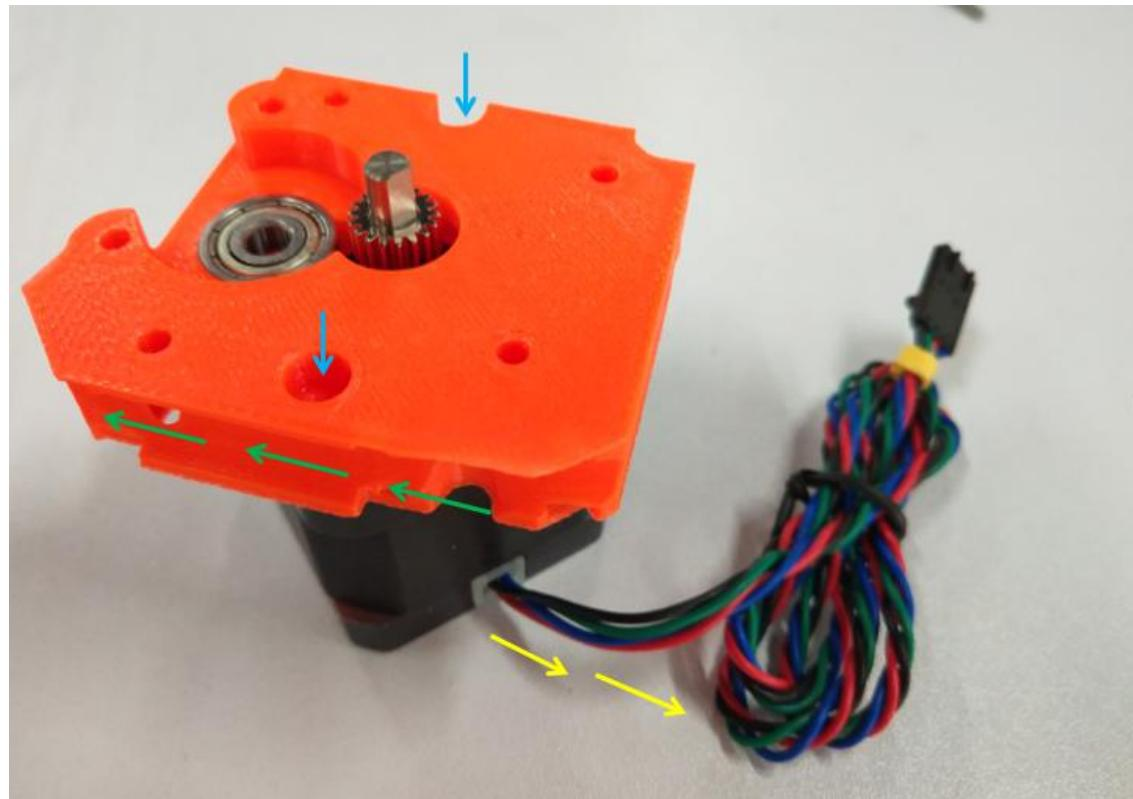

Figure 2.1.5
**Step 2-1-5:** As shown in Figure 2.1.5, install the MINI-extruder-front on the E-axis motor, pay attention to the position of the MINI-extruder-front and the motor line of the extruder, and then use 2pcs M3×12 cylinder head screws lock it.